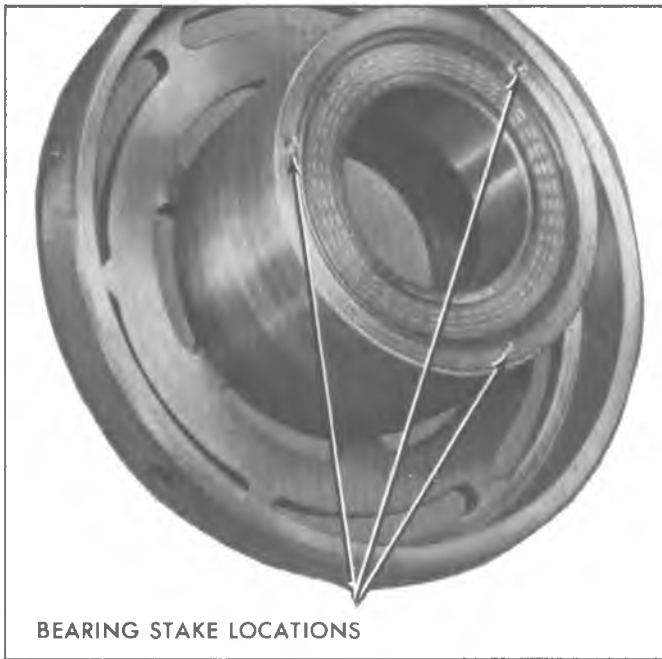
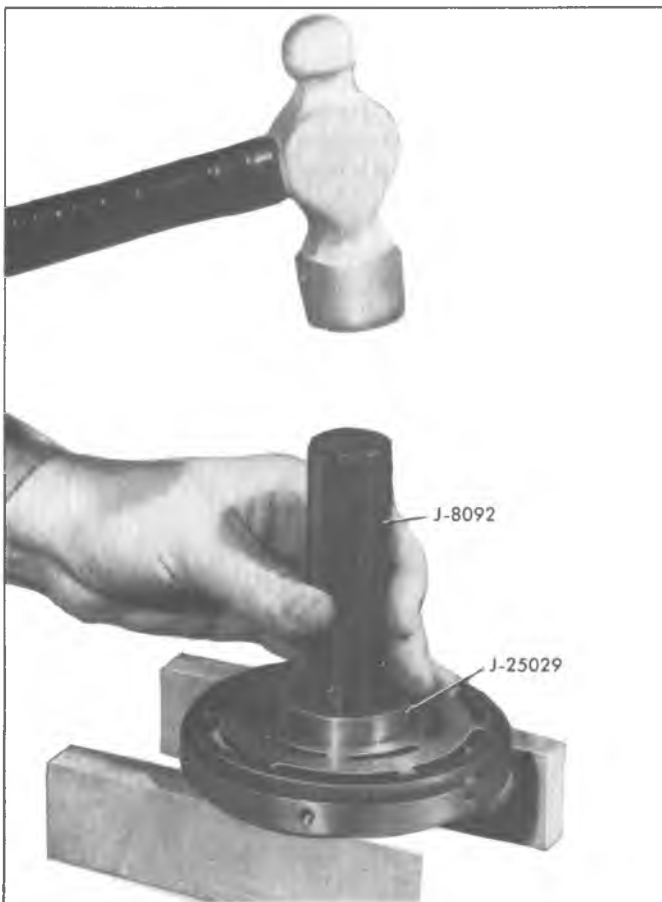

Fig. 14—Bearing Stake Locations
Fig. 15—Removing Clutch Rotor Bearing
2. Place rotor and bearing assembly on blocks (Fig. 15) and drive bearing out of rotor hub with rotor bearing remover and rotor assembly installer J-25029. It will not be necessary to remove the staking at the rear of the rotor hub to remove the bearing. See Figure 14.
3. Stake bearing in place with a 45° angle punch (Fig. 14) but do not stake too deep (.045 - .055 inch) and possibly distort the outer race of bearing. Use new stake locations 120° apart. Do not use old stake locations.